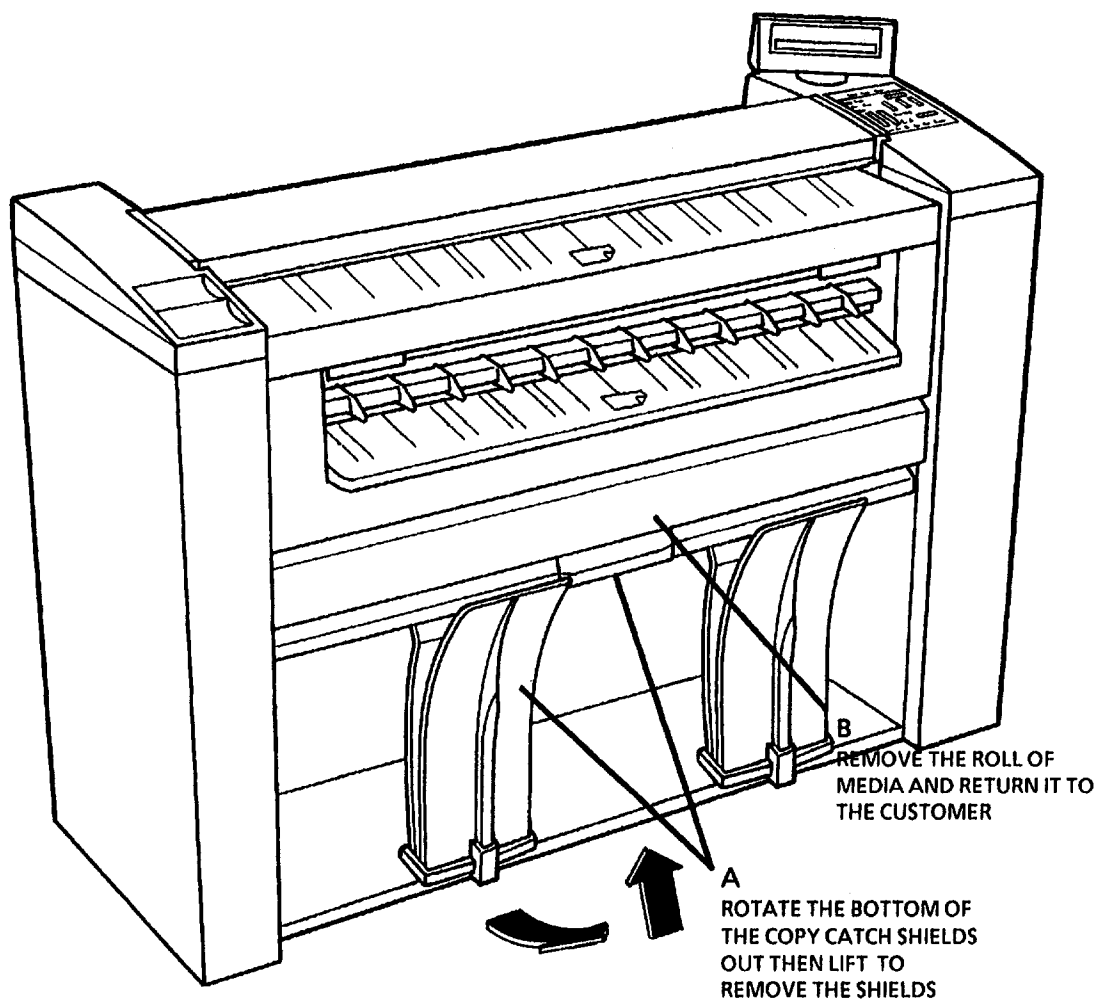

Figure 4. Remove the Copy Catch Shields
10. (Figure 4): Remove the Copy Catch Shields.